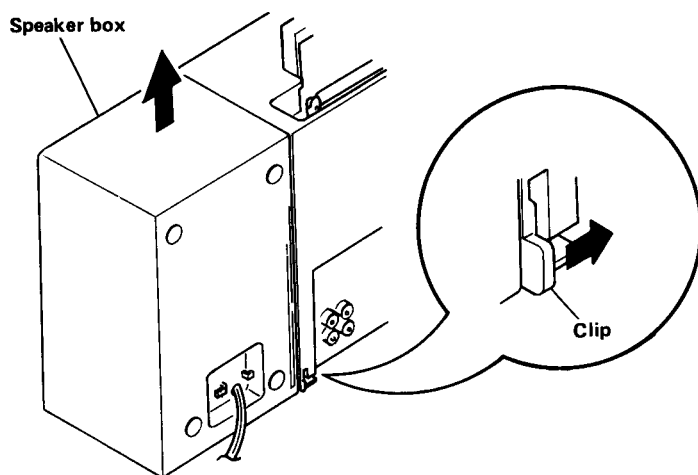

Fig.1
1. How to remove the speaker box (Fig. 1)